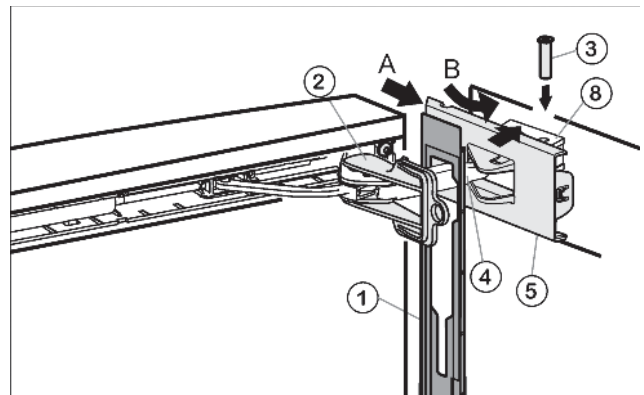

Fig. 18
- ▶ Hook panel Fig. 18 (1) into the damper bracket Fig. 18 (4) such that the detent hooks are pointing inwards and the front side is facing the appliance.
- ▶ Push on cover Fig. 18 (5) from the outside (A) and pivot over the bearing part Fig. 18 (8) (B).
- ▶ Place cover Fig. 18 (5) on top and allow to snap into place until the first notch.
- ▶ Pull damper bracket Fig. 18 (4) towards bearing bracket and insert bolt Fig. 18 (3) from above such that the square is resting in the recess.
- ▶ Now snap cover *Fig. 18 (5)* completely into place on the bearing part *Fig. 18 (8)*.
- ▶ Remove locking device *Fig. 18 (2)* by twisting it.
- ▶ Snap panel *Fig. 18 (1)* into place on the door.